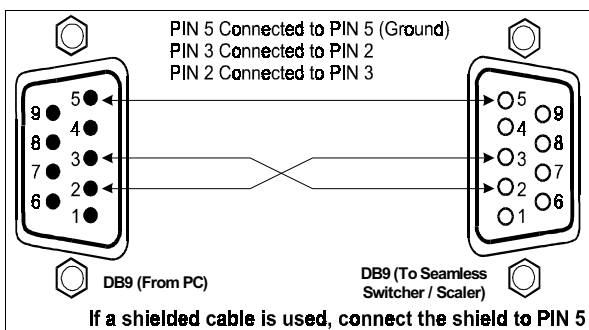

Figure 2: Connecting the PC
- Connect the RS-232 DB9 port on your PC to the RS-232 DB9 rear panel port on the **VP-720DS** or **VP-723DS**, as Figure 2 illustrates: